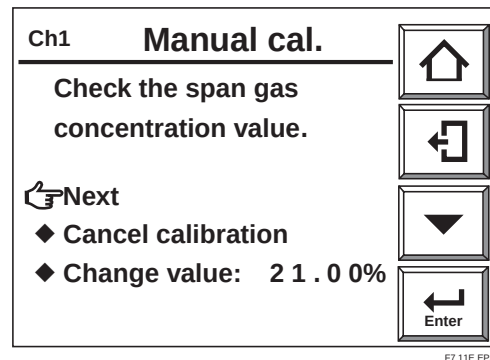

Fig. 7.11 Span Calibration setup
- 6) Select [Span calibration] and touch the [Enter] key. A display like Fig. 7.11 appears.